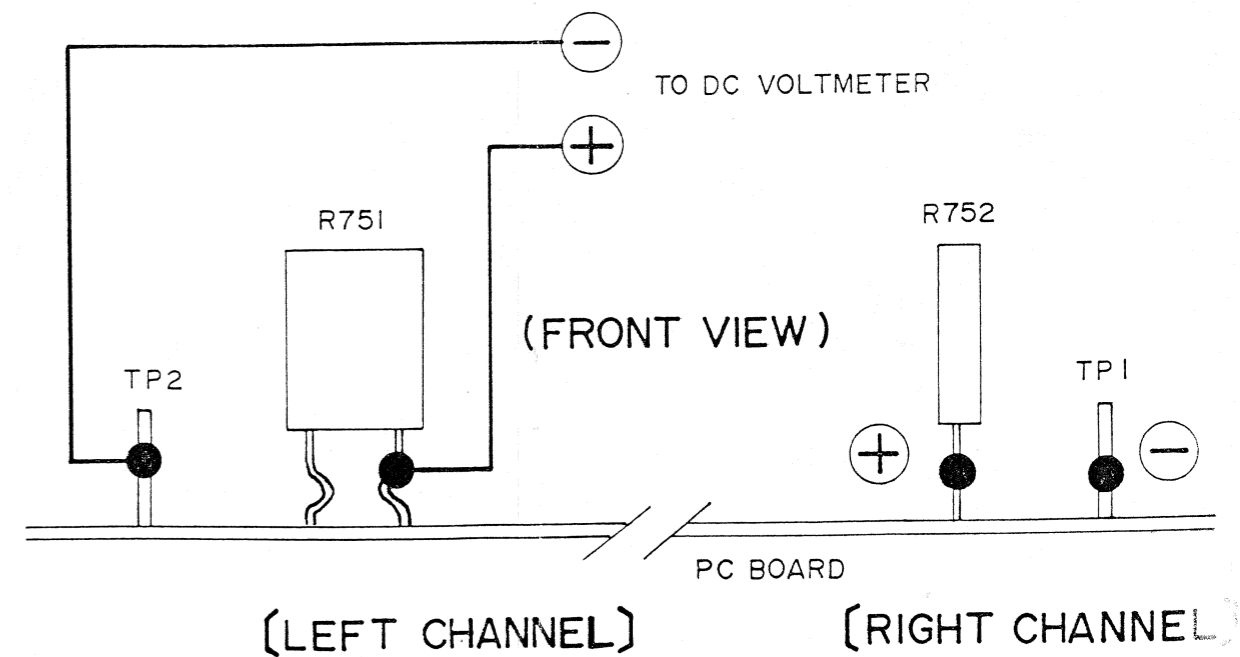

Figure 2
(See Amp PC Board and Fig. 2)
1. Connect DC Voltmeter in accordance with Fig. 2.